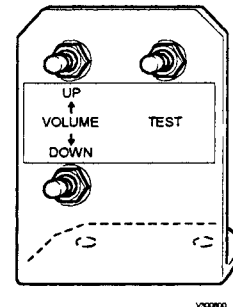

Figure 7: Test/Volume Bracket
23. Your cabinet may already equipped test switch. An optional test/volume bracket (see Figure 7) is available through your local CAPCOM distributor (part number 03-0050). When installing, the test switch bracket should be mounted inside the coin door and on top of the cash box for easy access. (See Page 7 for wiring detail)